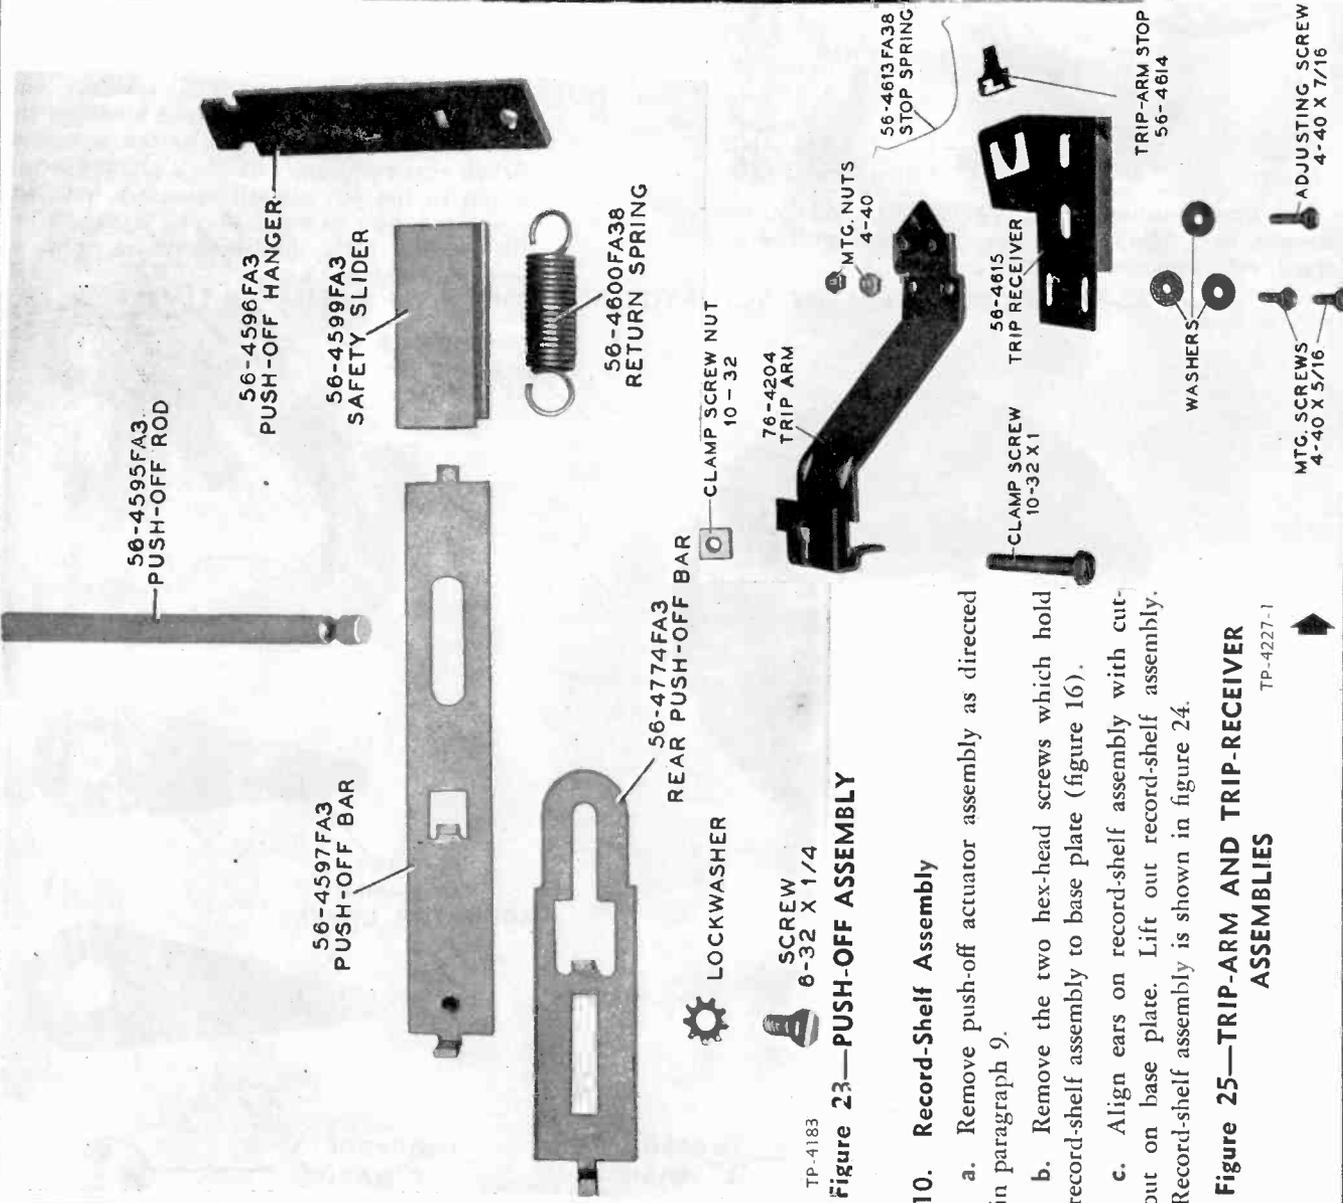

Figure 23—PUSH-OFF ASSEMBLY
**NOTE** After removing the push-off actuator and push-off-bar assembly, the slider blade on the record shelf may slide out of the assembly. When reassembling, this blade should be inserted in the record-shelf assembly with the elongated hole toward the 12" position of the record shelf. The push-off assembly is shown in figure 23.